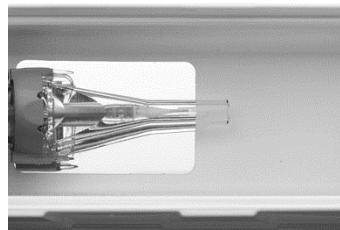

Figure 45
15. Advance the capsule over the bioprosthesis until the capsule comes within 5 mm of the catheter tip (Figure 45).